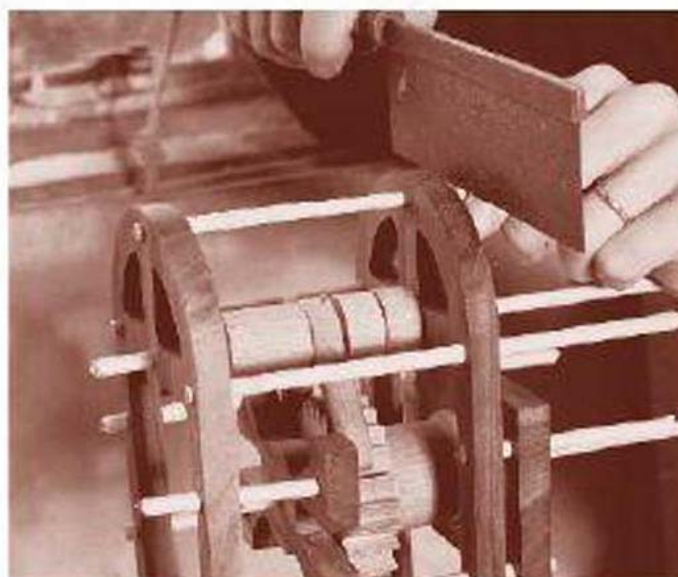

FIGURE 13-21
- 10** Once you have all the component parts well placed now that the whole machine is up and running, take a fine-toothed saw—or you might use a knife—and mark the length of the fixing rods (Fig 13-21). Allow about $\frac{1}{8}$ " extra at each end of the rods so they stand slightly proud of the frame.